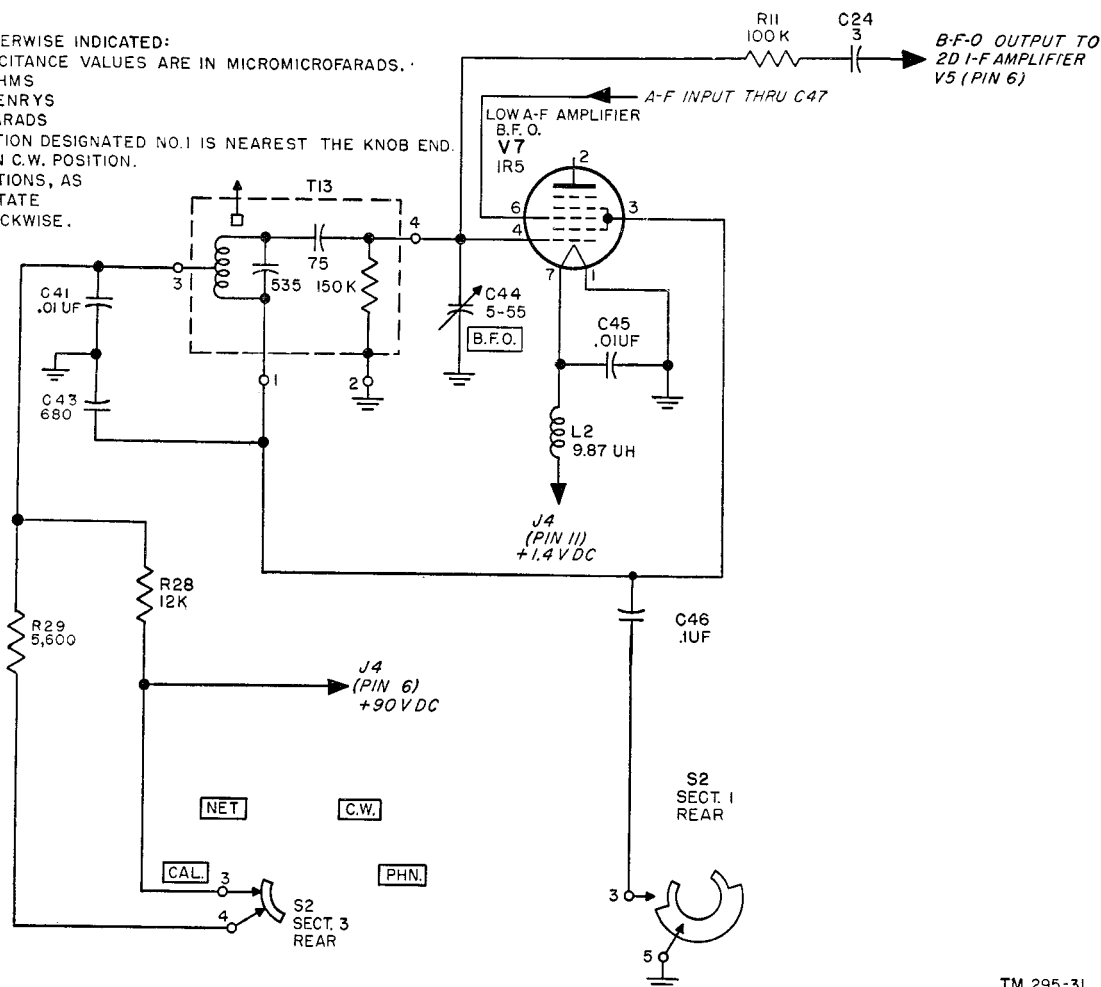

Figure 30. Radio Receiver R-174/URR, bfo, functional schematic.
62. Beat-frequency Oscillator, Part of V7 (fig. 30)